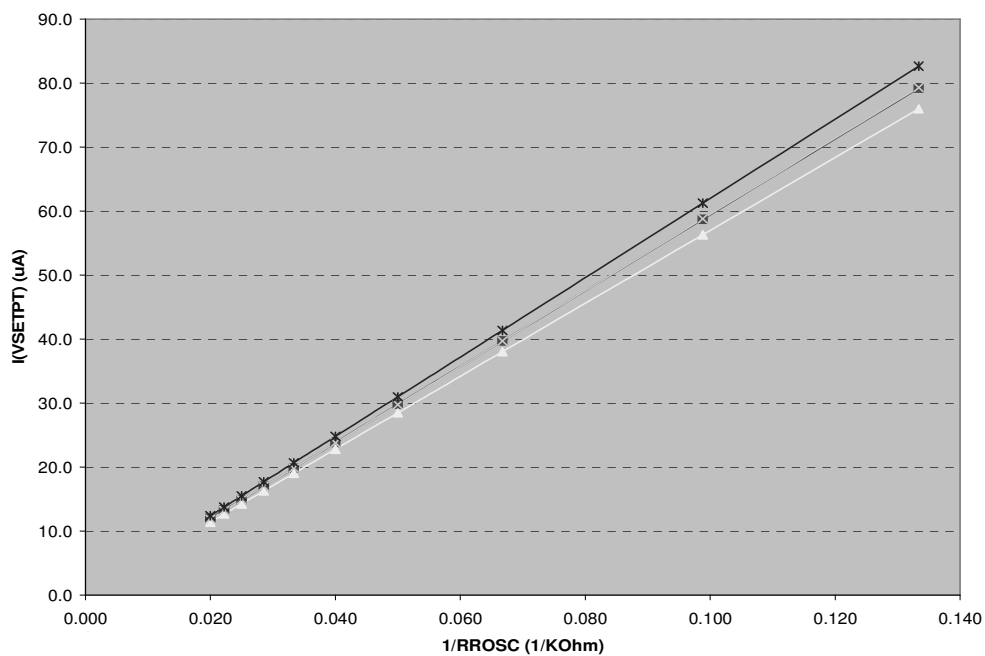

Figure 19: ISETPT with ROSC.
A resistor between VSETPT pin and VDAC is used to create output voltage offset V_{O_NLOFST} , which is the difference between VDAC voltage and output voltage at no load condition. R_{VSETPT} is determined by (26), where I_{VSETPT} is the current flowing out of VSETPT pin as shown in Figure 19.
From Figure 19, the bias current of VSETPT pin is 30 uA with $R_{OSC}=17.4 \text{ k}\Omega$.